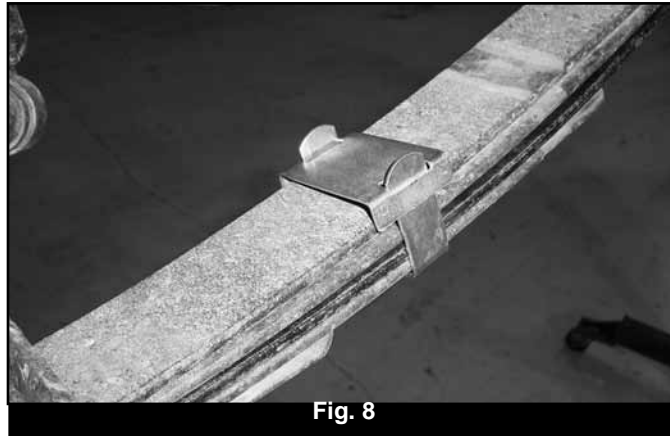

Fig. 8
42. Remove the C-clamps from the leaf pack and ensure the individual leaves are all inline with each other. Install the provided bend-over style clamps on the leaf pack (Fig 8). Install one clamp on each side of the center pin about 12" from the center pin. Bend the ends of the clamps over to secure them to the spring.